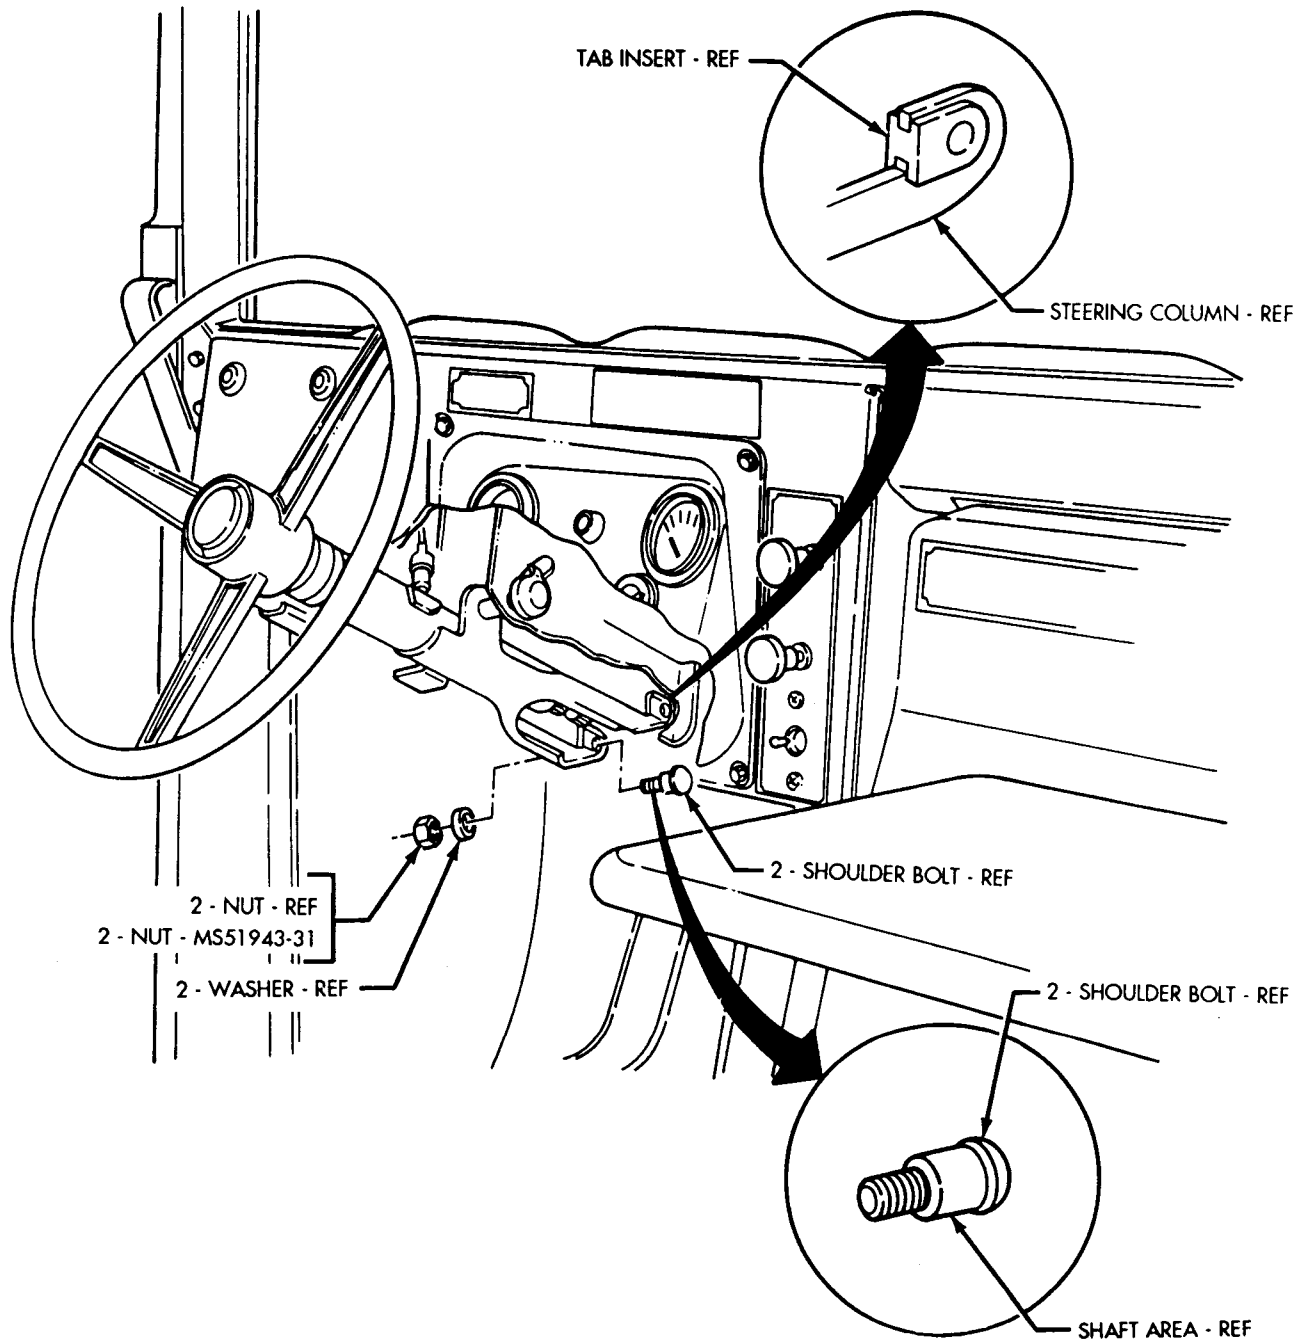

FIGURE 2
- (2) Remove two shoulder bolts, washers, and nuts from steering column as shown in figure 2.
- (3) Check tab inserts at end of steering column for paint and metal cracking as shown in figure 2. If cracking is present on or around tab inserts, discontinue inspection procedure and replace steering column (Refer to TM 9-2320-280-20).
- Check shoulder bolts removed in step "2" for "mushrooming" around shaft area of shoulder bolt as shown in figure 2. If mushrooming is present, replace shoulder bolts, washers, and nuts (Refer to TM 9-2320-280-20).
- (4) Install two existing shoulder bolts, washers, and two MS51943-31 nuts as shown in figure 2. Tighten nuts to 10 lb-ft (14 N·m).